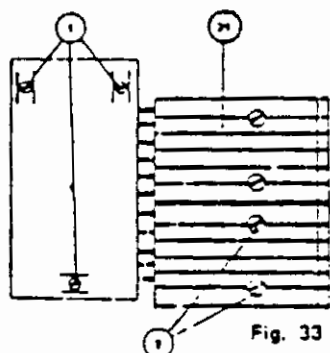

Fig. 33
- J. Fixed Secondary Isolating Contact Blocks (Fig. 33). Removal of blocks may be simplified by removing three screws (1) in wire guard and removing holddown screws (2) as illustrated.